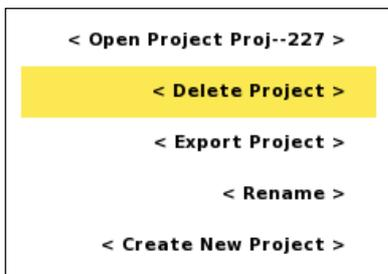

Figure 95 Project options menu
- Highlight <Delete Project> (*Figure 95*)